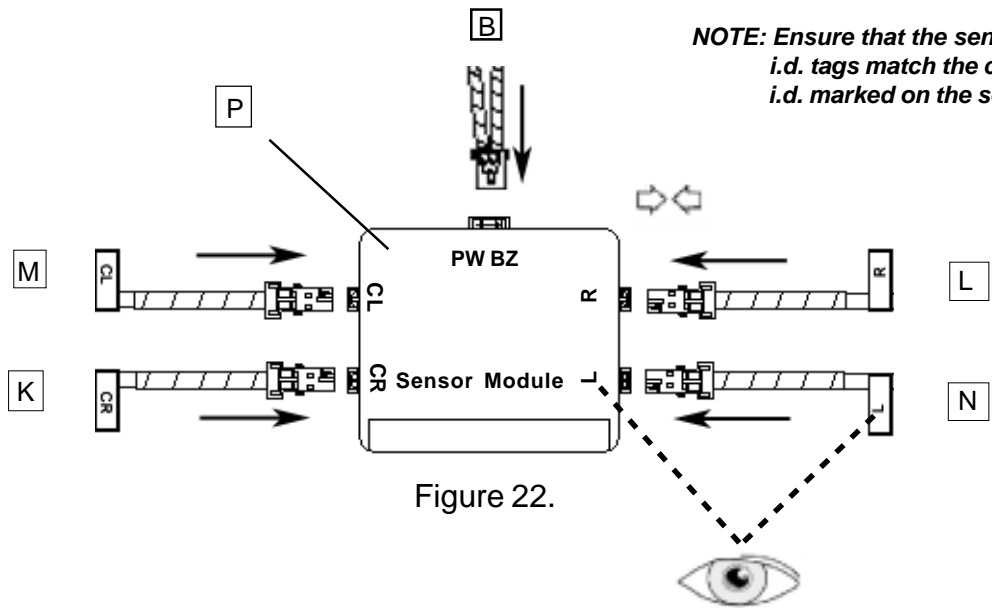

Figure 22.
- 1.) Connect the back-up sensor power harness **B** into the "PW BZ" connector located on the top side of the Back-Up Sensor System Control Module **P** (Figure 22.).
- 2.) Connect the back-up sensor cables marked "CL", "CR", "L", and "R" into the matching connectors as shown (Figure 22.).